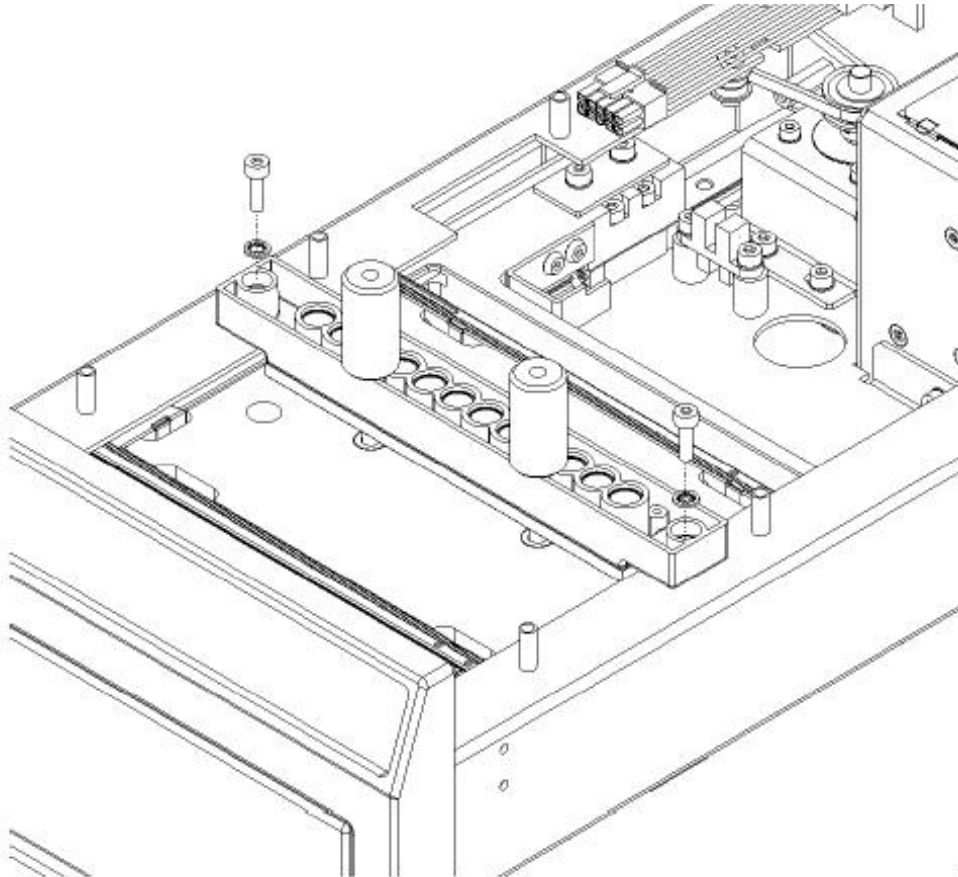

Figure N-14: Installing the Upper Optics Assembly
4. Loosely fit the Upper Optics assembly to the Baseplate using two M3x10 Socket Cap Head Screws and two M3 internal Tooth Washers. Slide two Alignment Pins through the Upper Optics assembly, the Reader Alignment Plate, and the Lower Optics Assembly. Secure the Upper Optics assembly to the Baseplate as well as the three accessible screws of the Lower Optics assembly. Finally, remove the fixtures and tighten the final screw fixing the Lower Optics assembly to the Baseplate (Figure N-14).